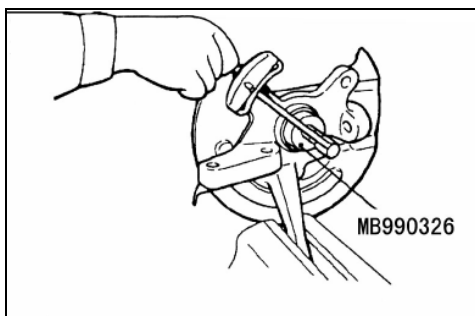

Fig.12-17
- c. Measure the hub starting torque by using the special tools.(see Fig.12-17)。